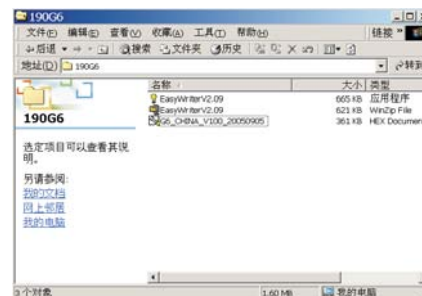

Fig. 5
Step 5 :Copy the G6_CHINA_V100_20050905 to C:\320WN6 as shown in Fig. 5 .